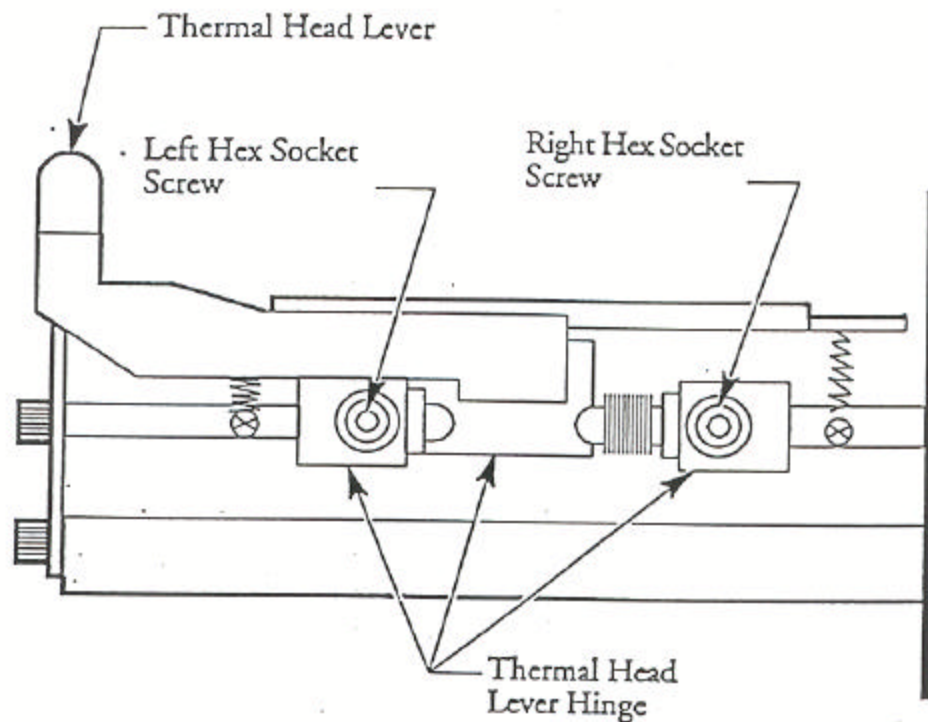

Figure 7. Hinge of Thermal Head Lever
5. Push down the thermal head lever again. Loosen the left screw as shown in Figure 7.